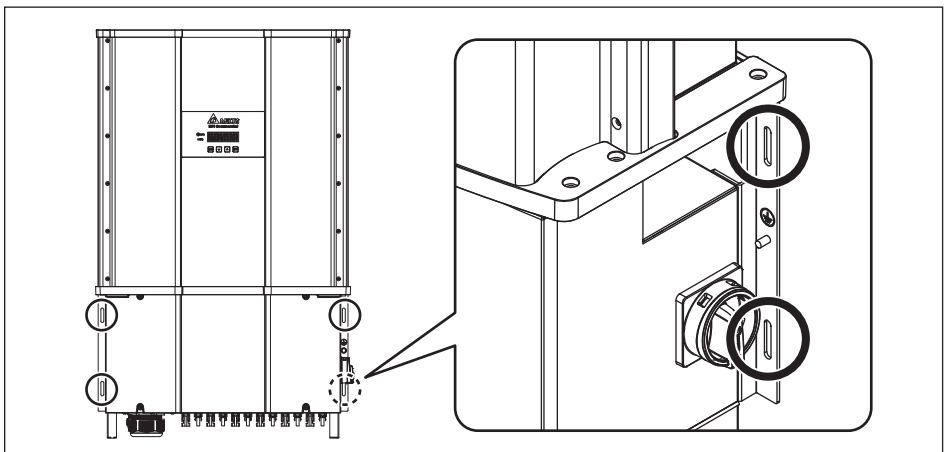

Figure 3-8 : Specification of fixing WB for wall-mounting installation
6. **Figure 3-8** shows the installation detail for fixing the wiring box.